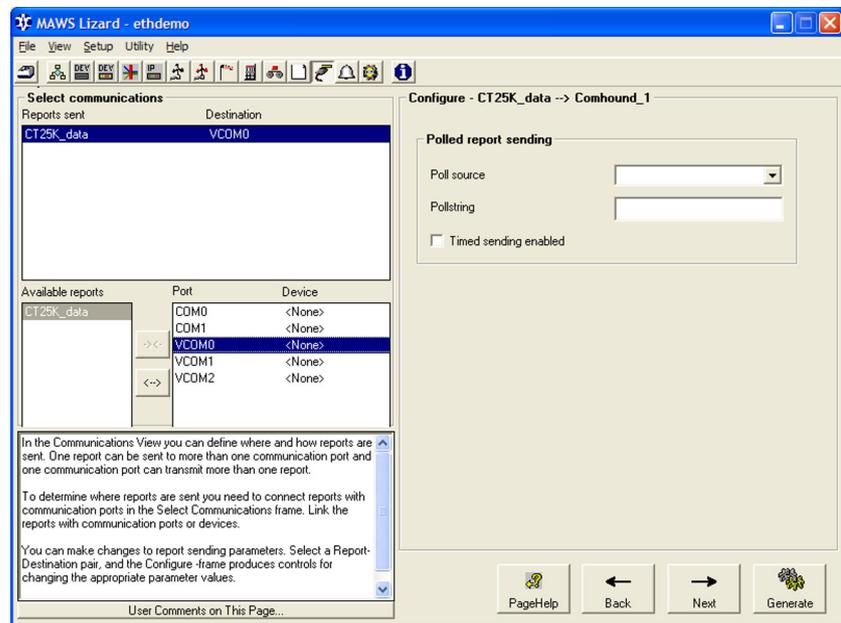

Figure 156 Linking Report to Virtual COM Port
9. In the **Reports** view, create a report and link it to the virtual COM port for sending data to the data acquisition system. See Figure 156 on page 317.